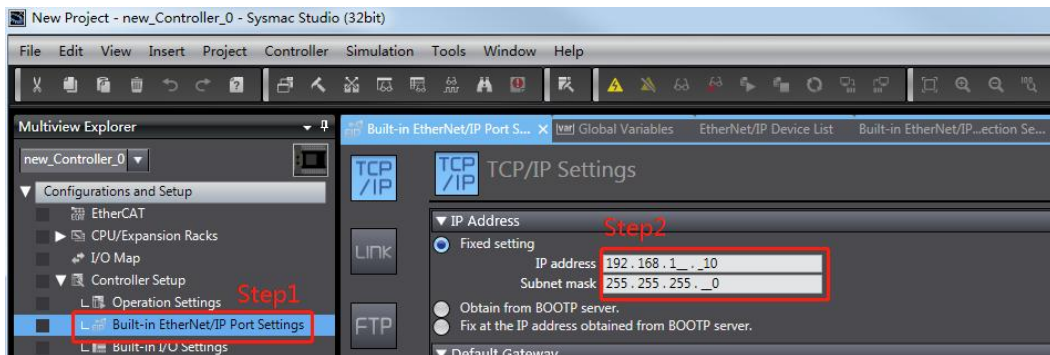

Figure 5-2-2
- Configure the EtherNet/IP port to a fixed IP address (consistent with the actual PLC port IP), as shown in Figure 5-2-2.